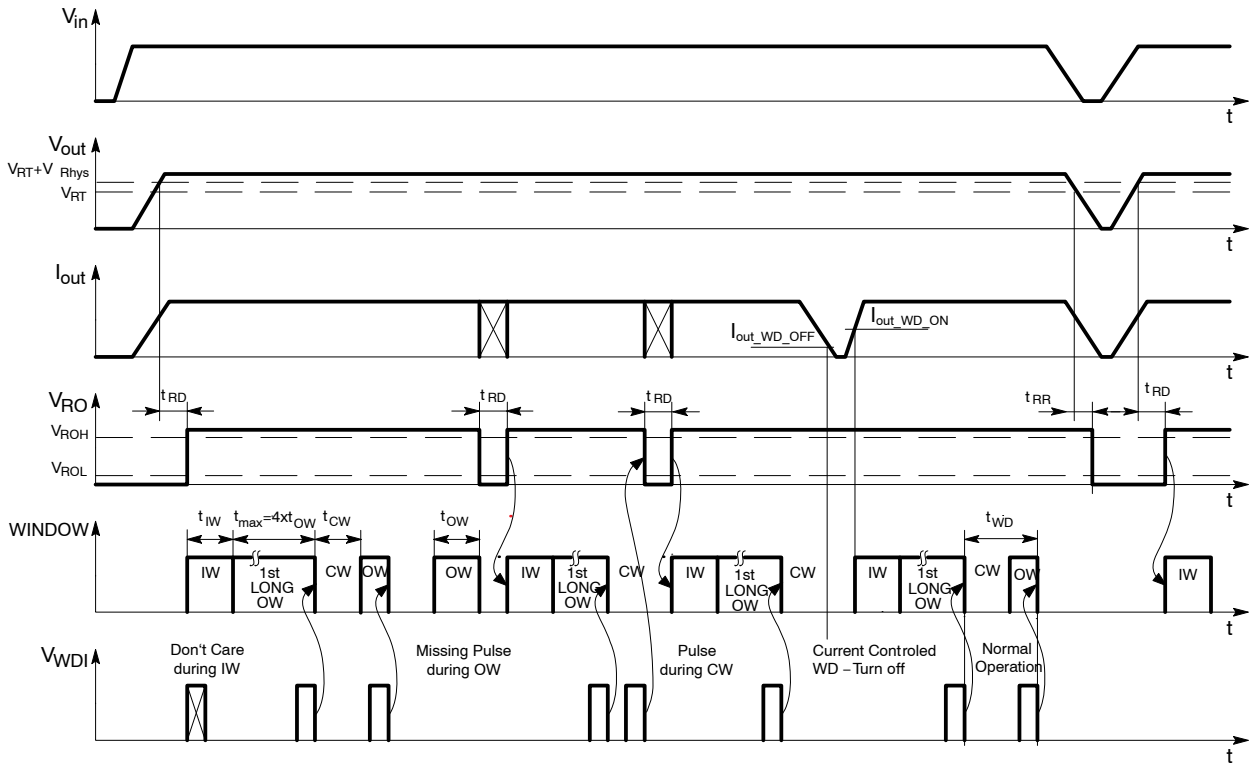
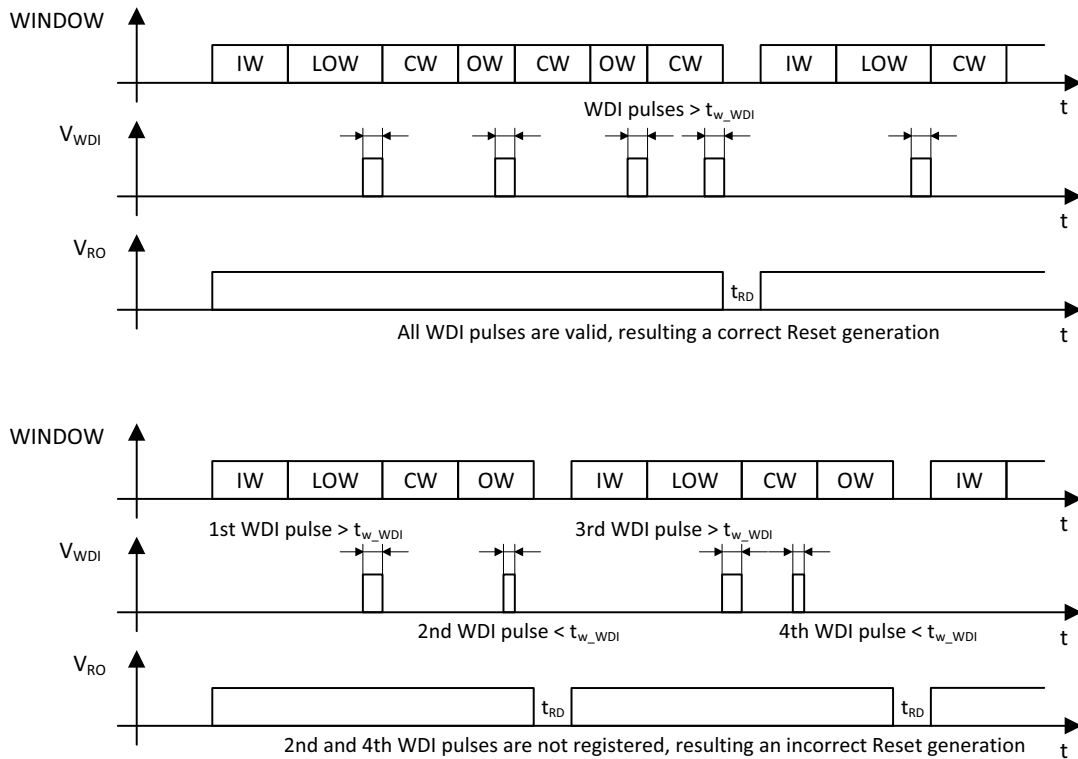

Figure 40. Window Watchdog Signal Diagram
Figure 41. Valid WDI trigger signal
The watchdog slow, fast or off state is set by pins WM1 and WM2 (see table in Figure 39). The timing values used in this description refer to typ. values when WM1 and WM2 are connected to GND (fast watchdog and reset timing). The state diagram of the window watchdog (WWD) and the watchdog and reset mode selection table is shown in Figure 39. The WWD timing is shown in Figure 40. After power-on, the reset output signal at the RO pin (microprocessor reset) is kept LOW for the reset delay time tRD (16 ms). RO signal transition from LOW to HIGH triggers the ignore window (IW) with duration of tIW (32 ms). During this window the signal at the WDI pin is ignored. When IW ends a long open window with maximum duration of (128 ms, tmax = 4 \* tOW) is started. When a valid trigger signal is detected during long open window, a closed window (CW) with duration of tCW (32 ms) is initialized immediately. WDI signal transition from HIGH to LOW is taken as a trigger. The WDI pulse to generate valid trigger should be longer than the Minimum WDI Pulse Width (tw\_WDI) and it has to be present before end of the long window. Valid WDI trigger signal is shown in Figure 41. When CW ends a standard open window (OW) with maximum duration of tOW (32 ms) is initiated immediately. The OW ends immediately when valid trigger appears at WDI input. For normal operation the microprocessor timing of WDI pulses must be stable and correspond to tWD. A reset signal is generated (RO goes LOW) if there is no valid trigger (missing pulse at WDI pin) during OW or if a pre-trigger occurs during the CW (unexpected pulse at WDI pin).